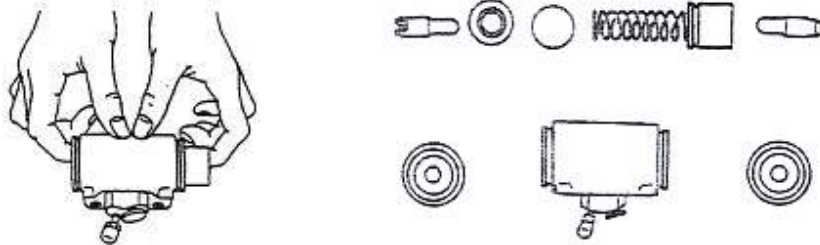

Fig. 2-24
(7) To disassemble the brake wheel cylinder: take off the dust-proof ring; press one side of the piston to pry up the other side of piston; press this side of the piston by hand. See Fig. 2-24.